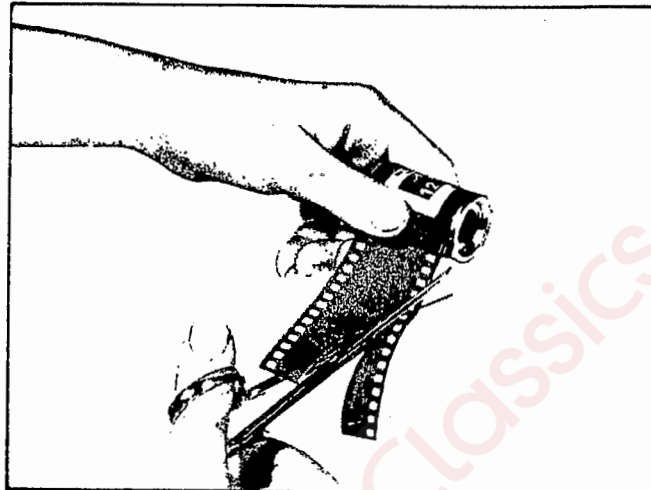

FIG. 4
9. Now, holding the case while keeping the holder bearing (5) in place with one hand, wind on with the other hand as many exposures as you need (up to 40) and ADD additional three exposures, to provide you with leader. For example if you need 36 exposures, turn the crank until the frame counter indicates 39 etc.
12. With the leader positioned towards you, cut a 1½" tapered section from the right hand end of the leader, see fig. 4.